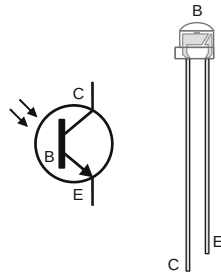

Figure 7-3
A *transistor* is like a valve that allows a certain amount of electric current to pass through two of its terminals. The third terminal of a transistor controls just how much current passes through the other two. Depending on the type of transistor, the current flow can be controlled by voltage, current, or in the case of the phototransistor, by light. Figure 7-3 shows the schematic and part drawing for the phototransistor in your What's a Microcontroller kit. The more light that strikes the phototransistor's base (B) terminal, the more current it will conduct into its collector (C) terminal, which flows out of its emitter (E) terminal. Conversely, less light shining on the base terminal results in less current conducted.
The phototransistor's light collecting surface is at the top of its clear plastic dome, which is the base (B) terminal shown in Figure 7-3. A small black square should be visible through that dome. That black square is the actual phototransistor, a tiny piece of silicon. The rest of the device is packaging, including plastic case, lead frame, and leads.